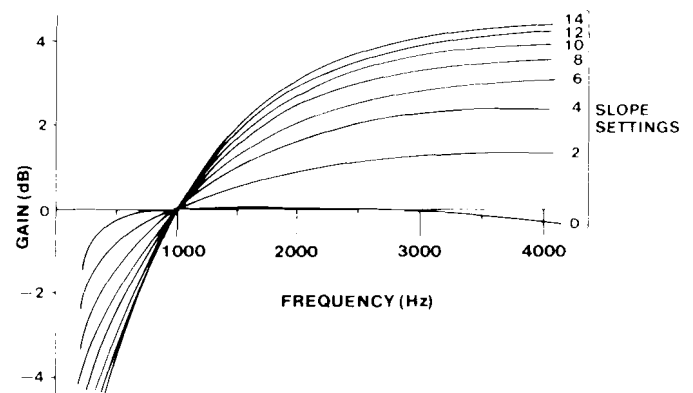
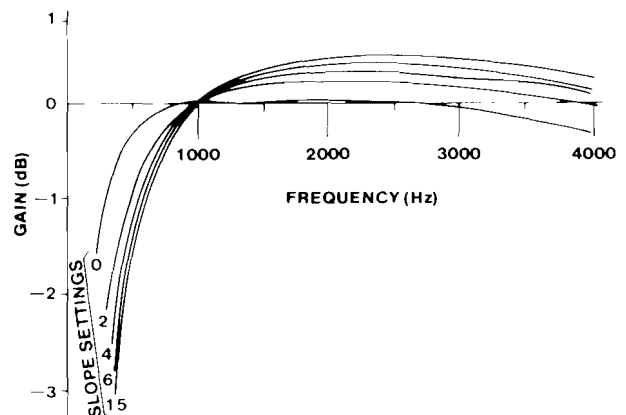

figure 4. Typical response curves for receive and transmit equalizers in slope mode, nonloaded cable
figure 5. Typical response curves for receive and transmit equalizers in slope mode, loaded cable
2.06 Figure 4 and 5 show typical response curves for the 309B-equivalent equalizer in the slope mode. Figure 4 shows the curves for non-loaded cable, while figure 5 shows the curves for loaded cable. For comparison purposes, all frequency-response curves in both figures are drawn with the same 0dB-gain reference point (1004Hz). Actually, all of these curves except those for a *SLOPE* switch setting of 0 are raised above the 0dB level at 1004Hz by as much as 11.4dB. The exact amount by which a particular curve is raised depends upon the *SLOPE* and *NL* (nonloaded/loaded) switch settings selected. These amounts are listed in table 1.